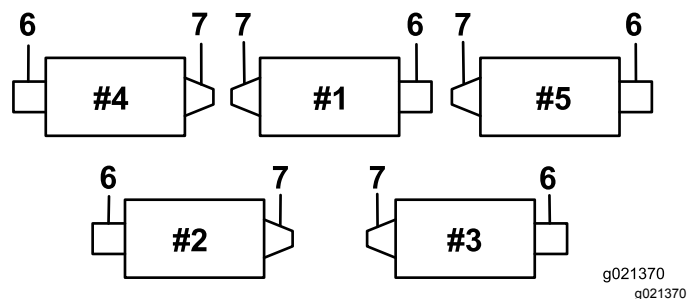

Figure 1
All cutting units are shipped with the counter weight mounted to the left end of the cutting unit. Use Figure 1 to determine the position of the roller brush and reel motors.
6. For 22 inch cutting units (#2 and #3 (Figure 1) roller brush side only). Remove the height of cut brackets (Figure 3).
7. For 22 inch cutting units (#2 and #3 (**Figure 1**) roller brush side only). Remove the sideplate by removing any hardware in the way and loosening the rear roller clamp nuts (**Figure 4**).
8. For 22 inch cutting units (#2 and #3 (**Figure 1**) roller brush side only). Remove bolts from sideplate.
Note: Left-hand threaded inserts are on cutting units #1, #3, and #5 (**Figure 1**).